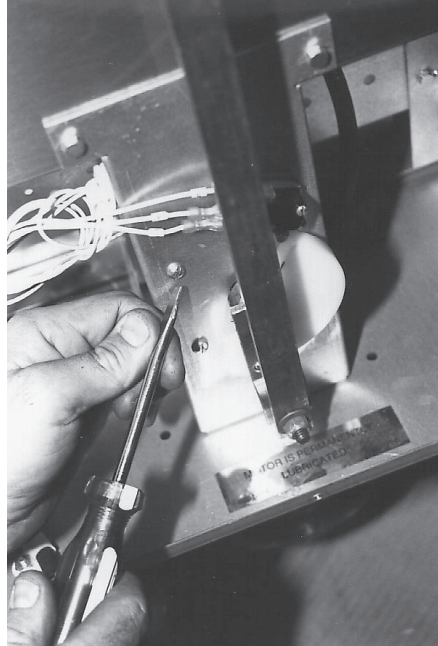

Fig. 63
6. With flat blade screwdriver remove (2) screws holding the motor to the cam bracket assembly. (Fig. 63)